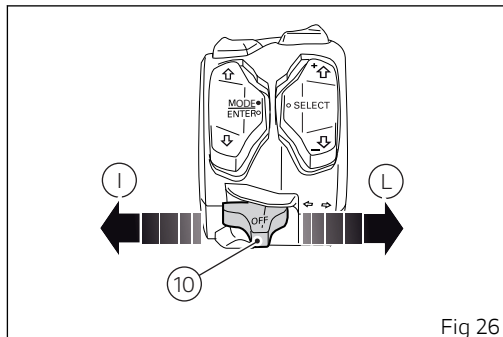

Fig 26
When turning the key to off, the display shows the page where to switch on the parking lights: to turn on the parking lights, keep pressed button (10, Fig 26) in position (I).